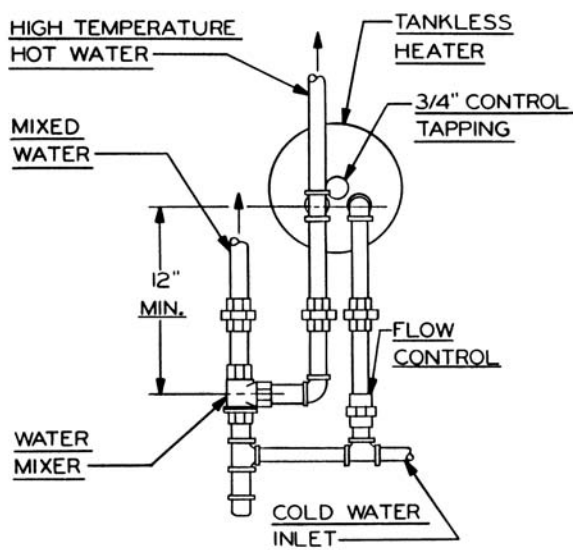

Figure 3.6: Tankless Coil Piping, Water Boiler
1. If a tankless coil is used (item 13 or 17), install as pictured. On water boilers, install in opening in front section. On steam boilers, install in opening in rear section. For suggested piping of tankless water heaters refer to Figures 3.6 and 3.7.